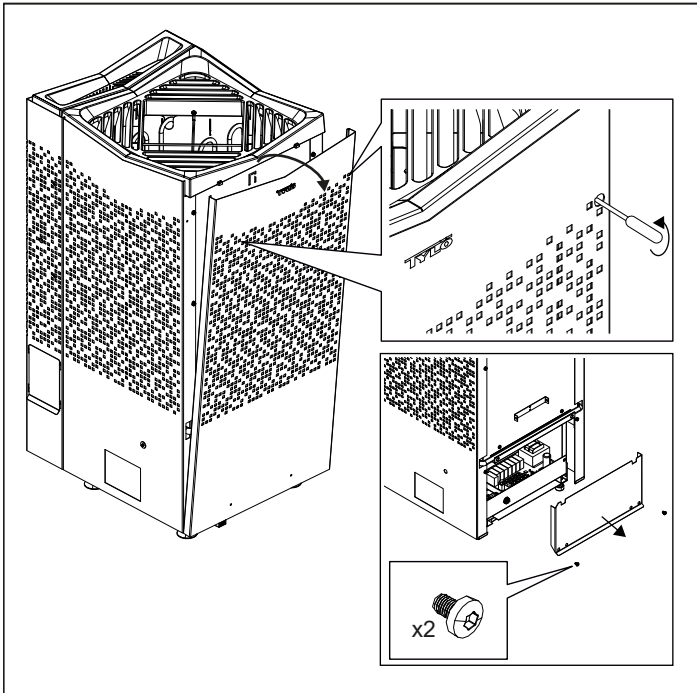

Fig 8: Undo the hidden screws, torx 20, take of the front panel and the lower hatch
2. Lift of the front panel and front hatch, see Figure 8.